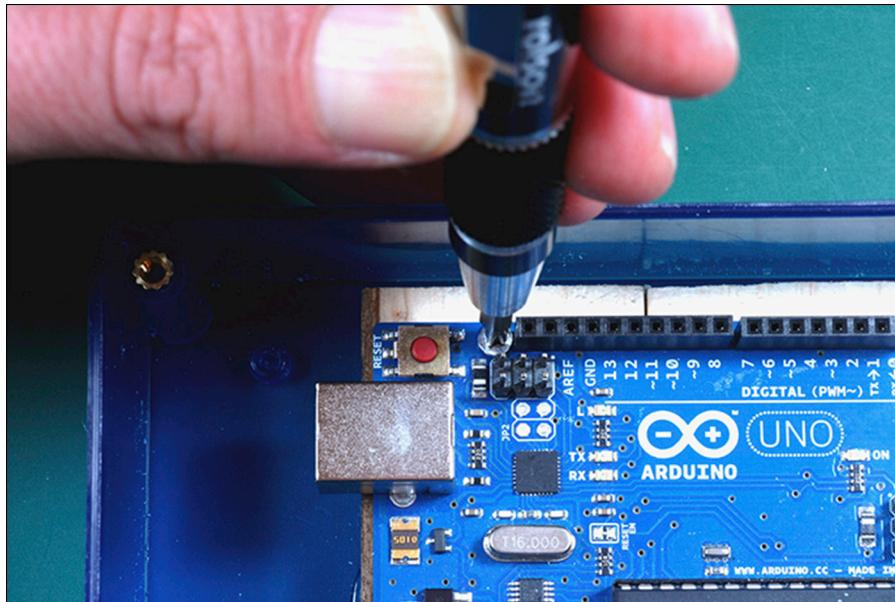

Figure 13-15:
The power supply is simply your 9V battery connected to the switch. The positive lead is connected to one side of the rocker switch. The other side is connected to the Vin pin on your GPS shield, which is connected to your Arduino’s power input pin (through a pin header on the shield). The negative lead goes straight to your ground pin. Do the following steps, as shown in Figures 13-15 and 13-16:
3. **Separate your GPS shield from your Arduino and use three or four of your wood screws to secure your Arduino to the wood, as shown in Figure 13-15.**